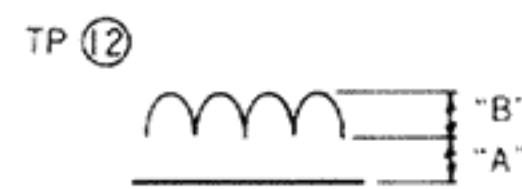
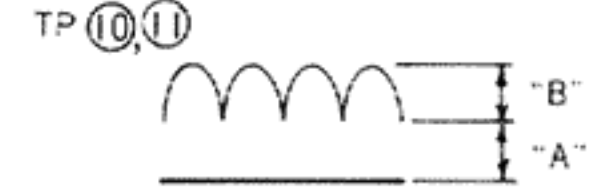

Fig. 47
Fig. 48
Utilizing the gain of TP ⑫ as the adjustment criterion, adjust the gains of TP ⑩ and TP ⑪. For TP ⑩, adjust VR784 (1k ohm) to make the heights of "A" and "B" in Figure 48 equal to those of TP ⑫ in Figure 47. At this time, heightening either "A" or "B" will result in a circuit characteristic lowering of the other. For TP ⑪, adjust VR796 to obtain the same result. Lock adjustment may necessitate repeating the 2.2Hz adjustment. (If "B" exceeds 100mV, the motor is defective.)